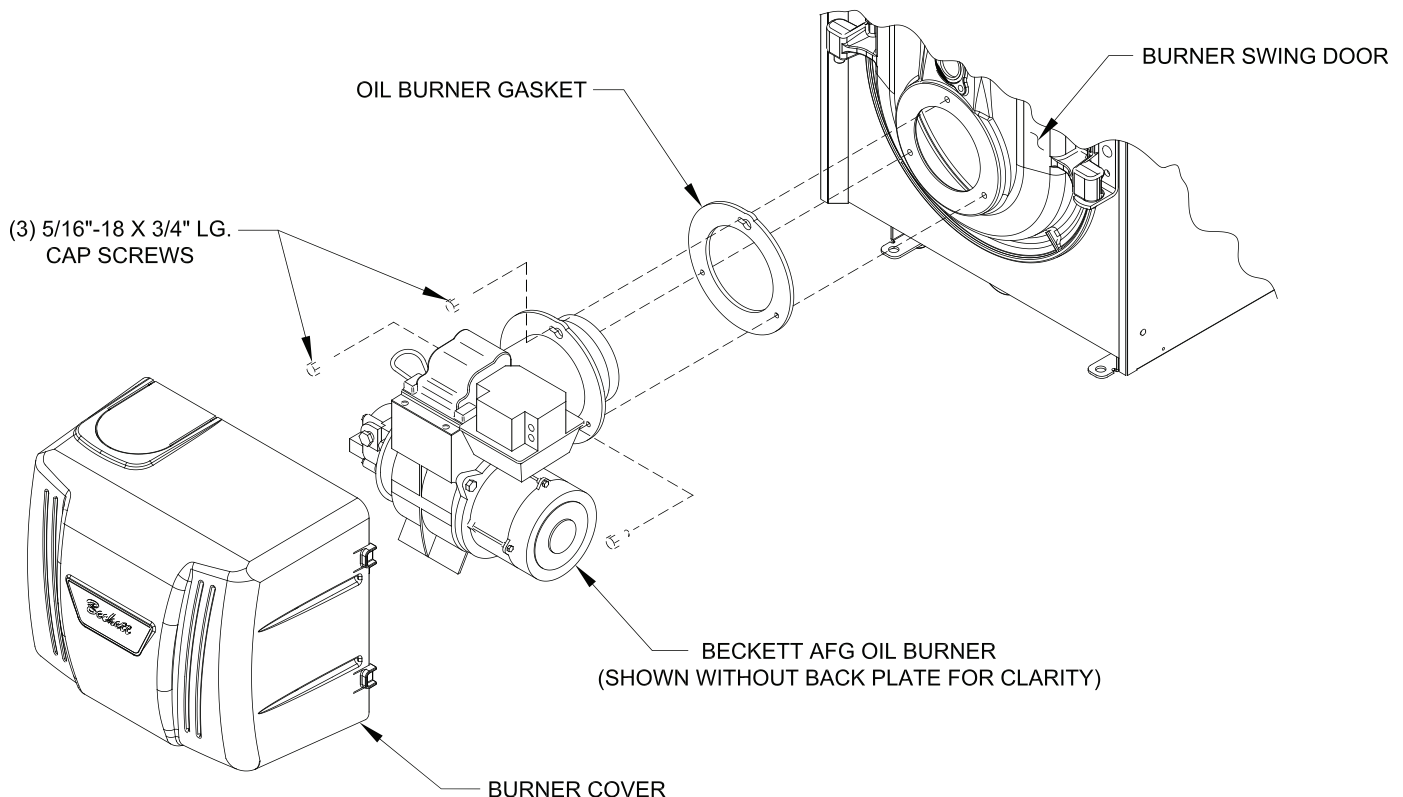

Figure 22: Oil Burner Installation (Beckett shown)
4. Remove burner cover. Loosen two screws securing outside air duct bracket to burner cover mounting plate. See Figure 22.
7. Secure the pipe to collar with at least (3) sheet metal screws (installer provided) evenly spaced around the collar.